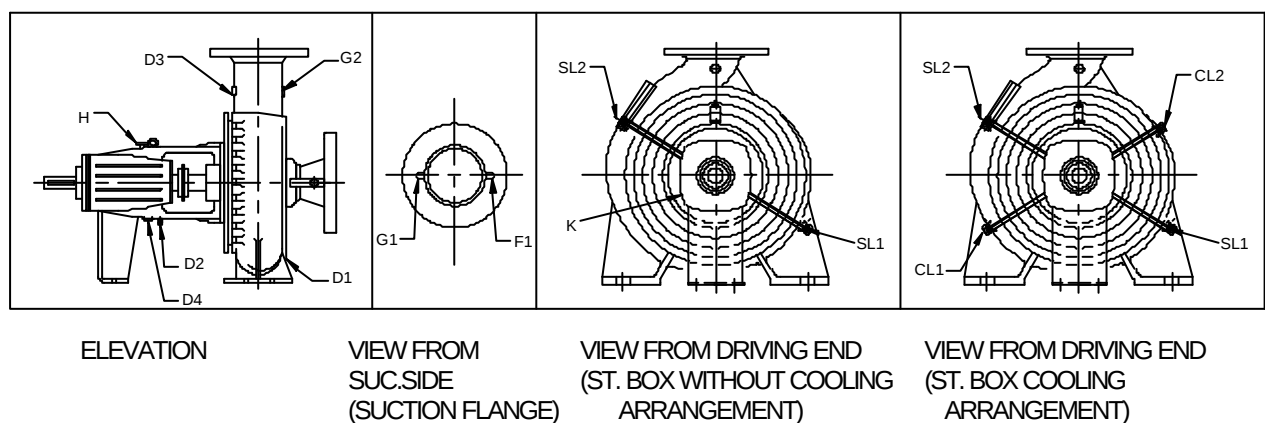

FIG. 2
2.3.3 Please refer to Fig.2 for plugs and piping connections in SHM pumps.